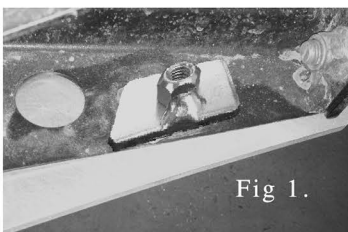

Fig 1.
3. Once all the mounting points have threads you can install your main aluminum skid plates using the gold cupped washers with the 6mm Flange bolts. Install the 767M1 skid first, hang the skid from the frame loosely using the cupped washers and then install the #839 clamp around the center frame tube and bolt the plate to the clamps using an 8 x 25mm button head bolt with washer. Do not tighten any bolts down at this time, install the rest of the main skid plates in any order leaving everything loose so that the plate's positions can still be adjusted. Note that the 767M3 plate uses two 8 x 25mm button head bolts secured to the frame with a nylock nut and the 767R skid uses the #700-06 nut plates braced behind the steel plate welded to the frame as shown in fig. 1. If you are installing the UHMW layer do not install the two rear #700-06 nut plates at this time.